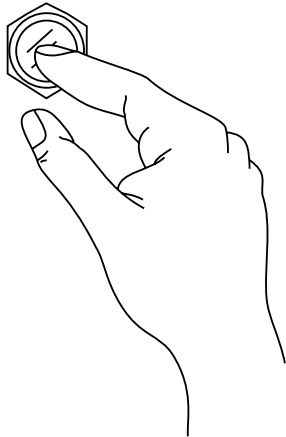

Figure 68. Hour Check Button
1. With the engine stopped (**OFF**), push and hold the **Hour Check Button** (Figure 68) located on the control panel.